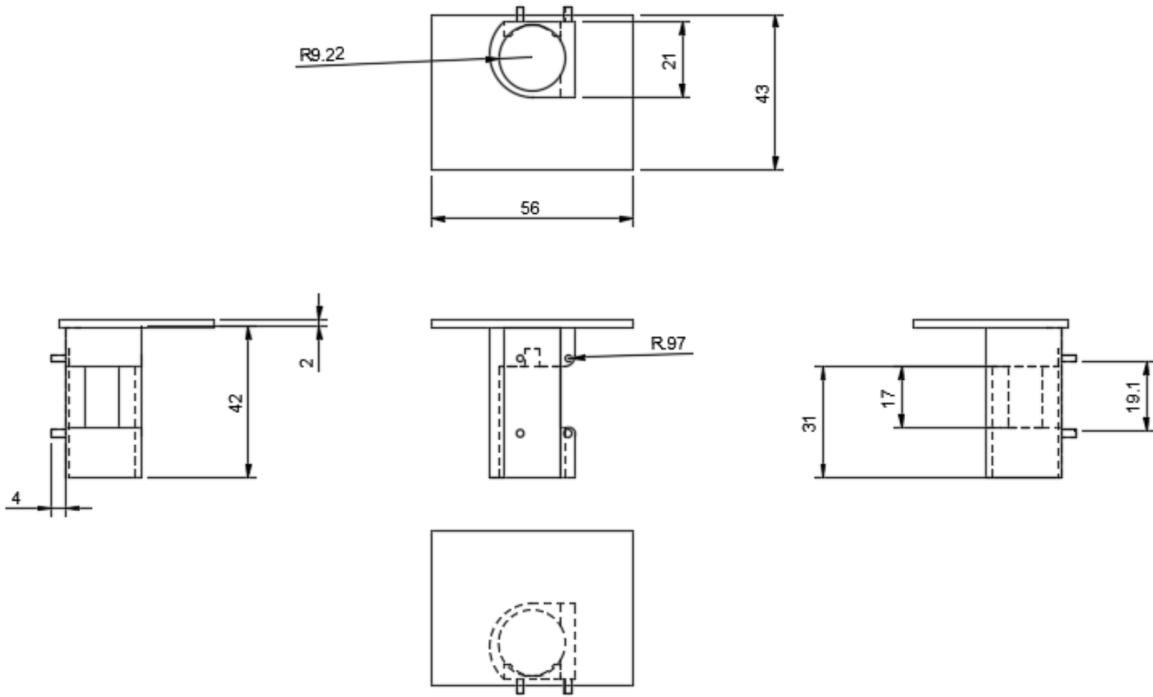

Figure 6: Mechanical Drawing of the Sensor Housing done in Fusion360. All measurements done in milimeters.
- The housing for the Laser Rangefinder, the Photodiode, and the ADC chip was 3D printed with this STL File on an Airwolf EVO with 0.5mm ABS Plastic Filament. Figure 6 shows a mechanical drawing of the sensor for future modeling.